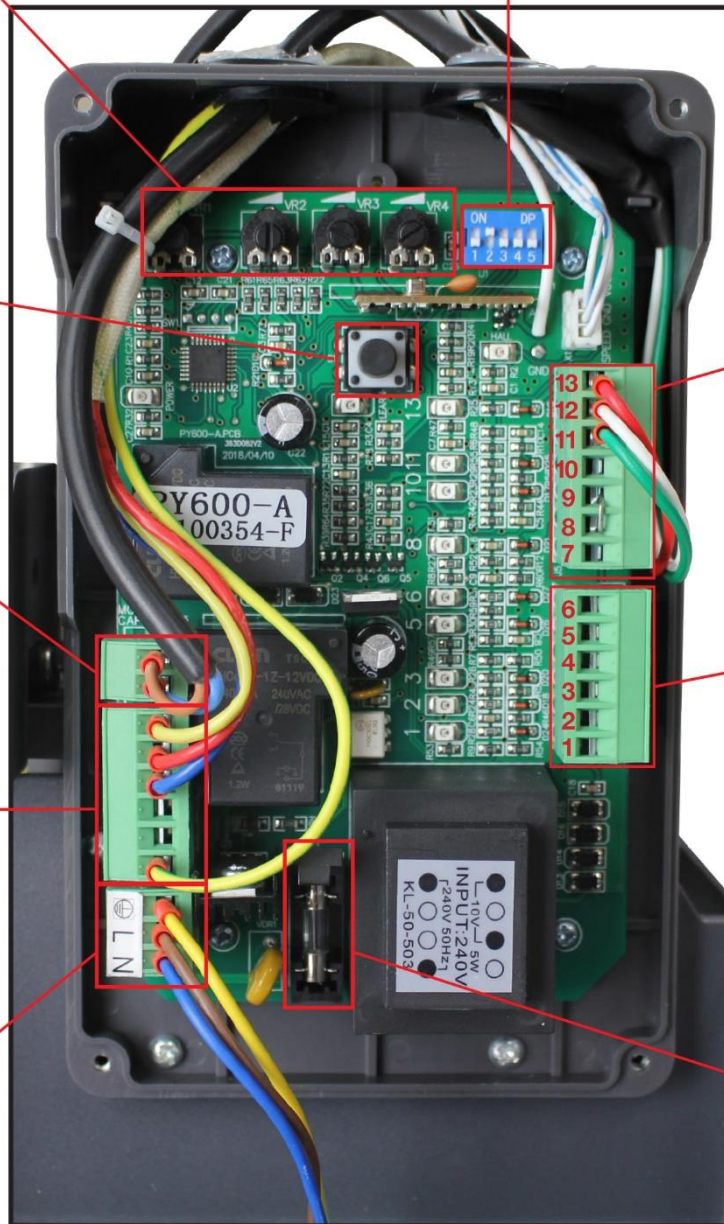

Fig 25
- If you want the gate to close to the left,  then you will need to change the direction of opening by switching the MOT1 and MOT2 lines on the J4 terminal (as per fig 25).